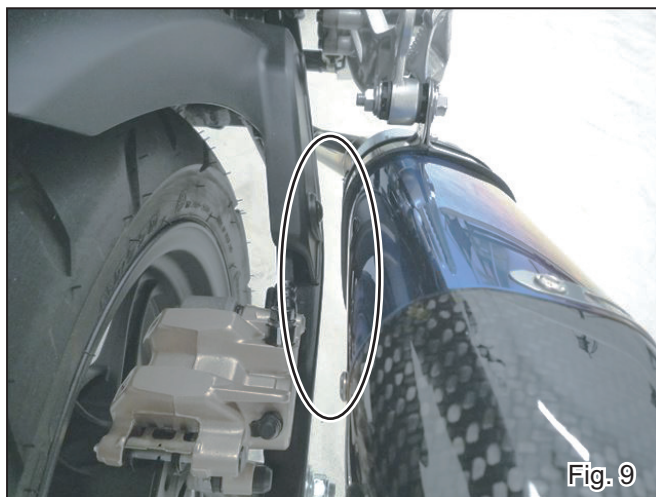

Fig. 9
- 8) Check from back and adjust angle of Silencer Assy and keep proper clearance between Yoshimura Exhaust System and other components such as swing arm. Tighten and torque 2 of stock nut at exhaust port, stock bolt at exhaust pipe bracket, and stock bolt at Silencer Band in the order (See Fig. 9 & 10 on next page).